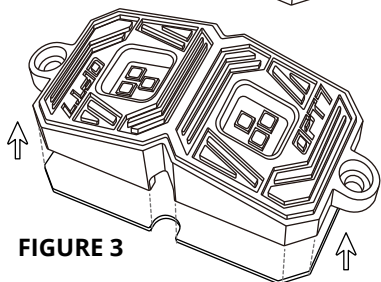

FIGURE 3
- OPTION 3** Use "VHB Double-Sided Adhesive" for mounting as shown in Fig. 3